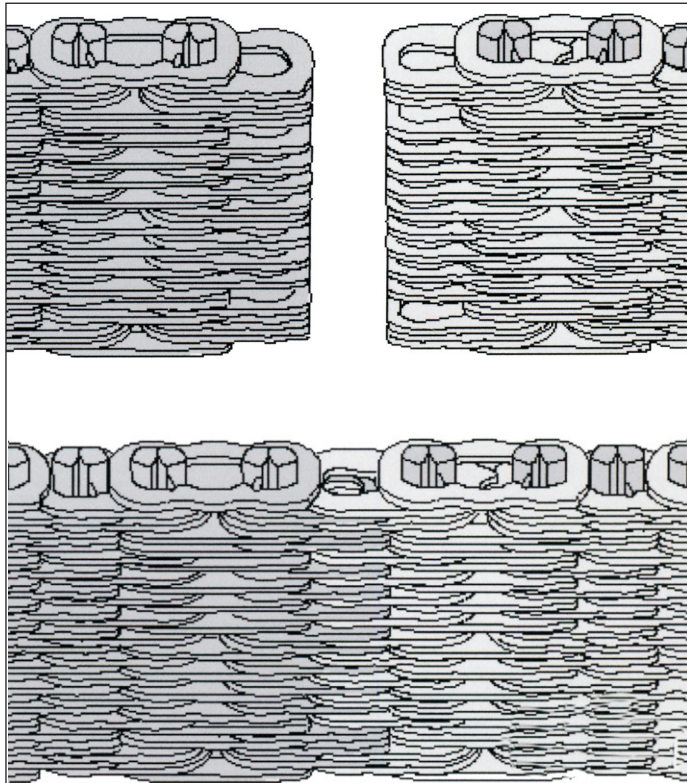

Figure 13
3. Wrap the chain around the pulleys until the two open ends meet and join them together as seen in figure 13.